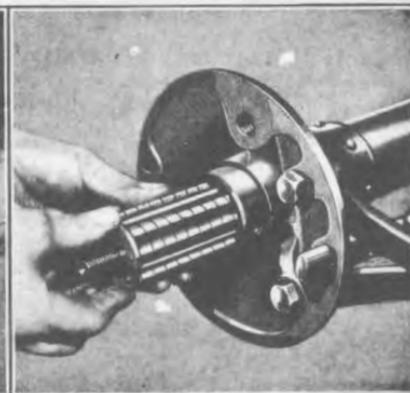

Fig. 357
**637** Place cup grease on roller bearing and slide it back in bearing sleeve until it rests against steel washer (See Fig. 357).